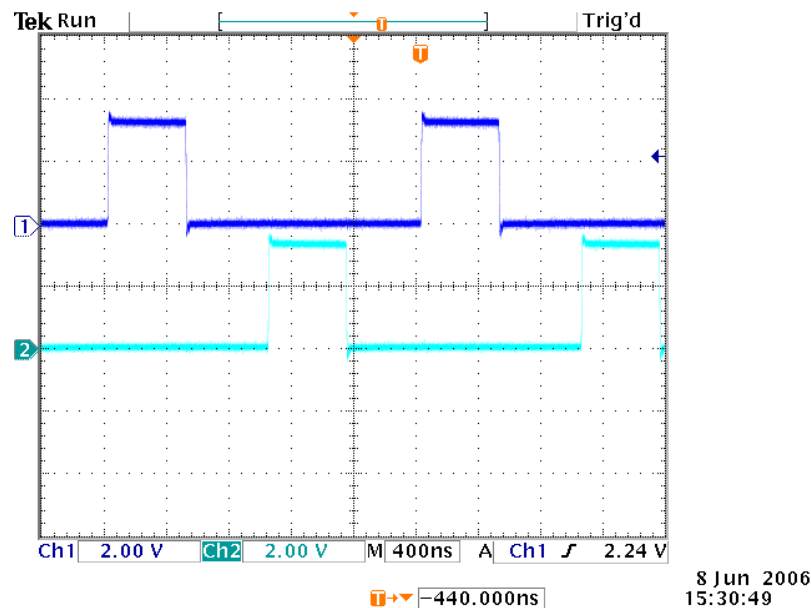

Figure 7. PWM waveform from Build2A on EPWM1A and EPWM2A.
7. Inspect the PWM output on EPWM1A (P8, pin 9) and EPWM1B (P8, pin 10) and EPWM2A (P8, pin 11) and EPWM2B (P8, pin 12) on the EZDSP connector P8. Vary the duty cycle by modifying the value of the variables duty1 – duty4. A screen capture of the PWM waveform is shown in Figure 7, with both set to a value of 0x6000. Notice that the modules are started independently – master / slave start (although available) is NOT used, thus there is some phase offset.